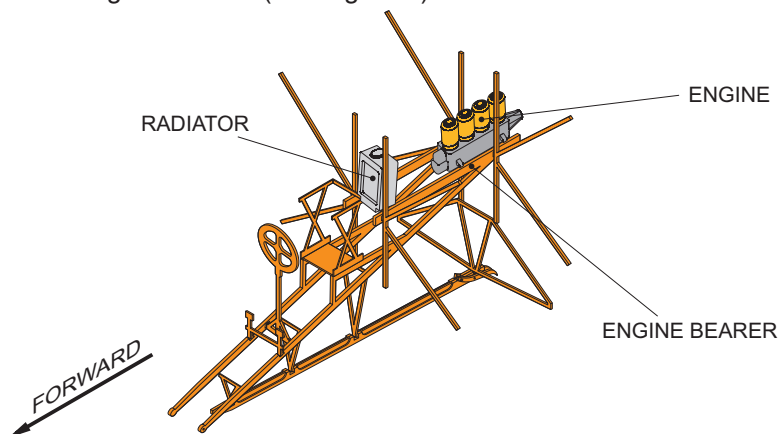

Figure 4
- I Paint the engine and radiator. The engine is a dark grey crankcase with bronze cylinder jackets, while the radiator has matt black grills. Attach the engine and radiator to the engine bearers (see Figure 4).